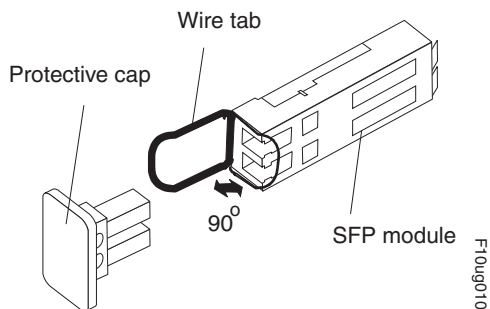

Figure 16. Unlocking the SFP module latch - wire variety
- For SFP modules that contain wire tabs, unlock the SFP module latch by pulling the wire latch outward 90°, as shown in Figure 16.